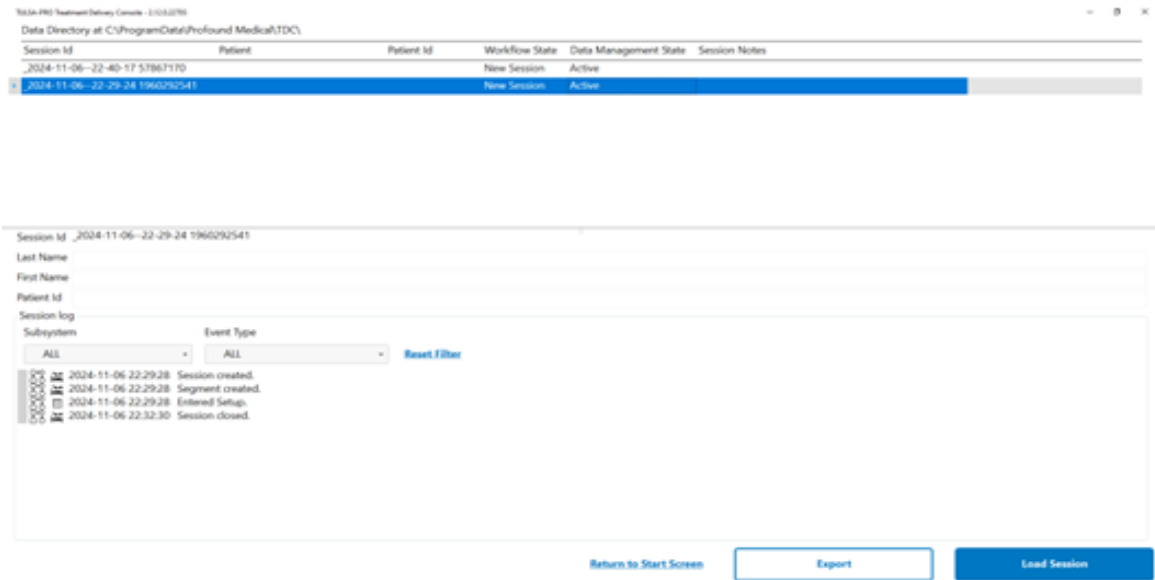

Figure 67: TDC Manage Sessions screen
2. On the TDC **Manage Sessions** screen (Figure 67), select a treatment session and click **Export**.